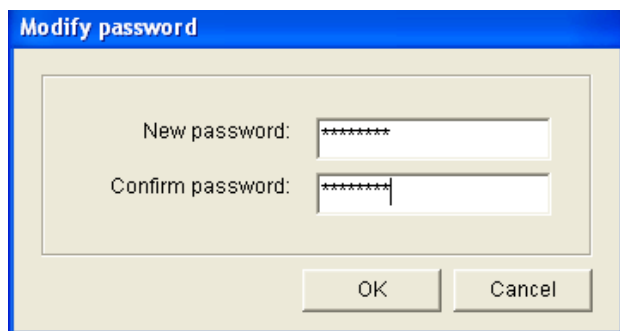

figure 8.21: Modify password window
- 2 Type in the current password, and then click OK. The default password is 12345678. The following window will appear (see figure 8.21).